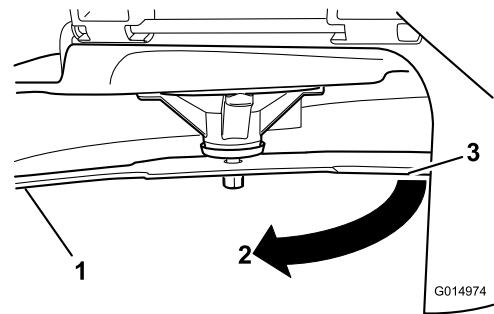

Figure 87
3. Measured distance between blade and the surface (A)
4. Rotate the same blade 180 degrees so that the opposing cutting edge is now in the same position (Figure 87).